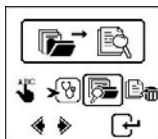

Fig.71
1. Select **View Test Report from memory** by scrolling the ► key to  and press  See display below (Fig.71):